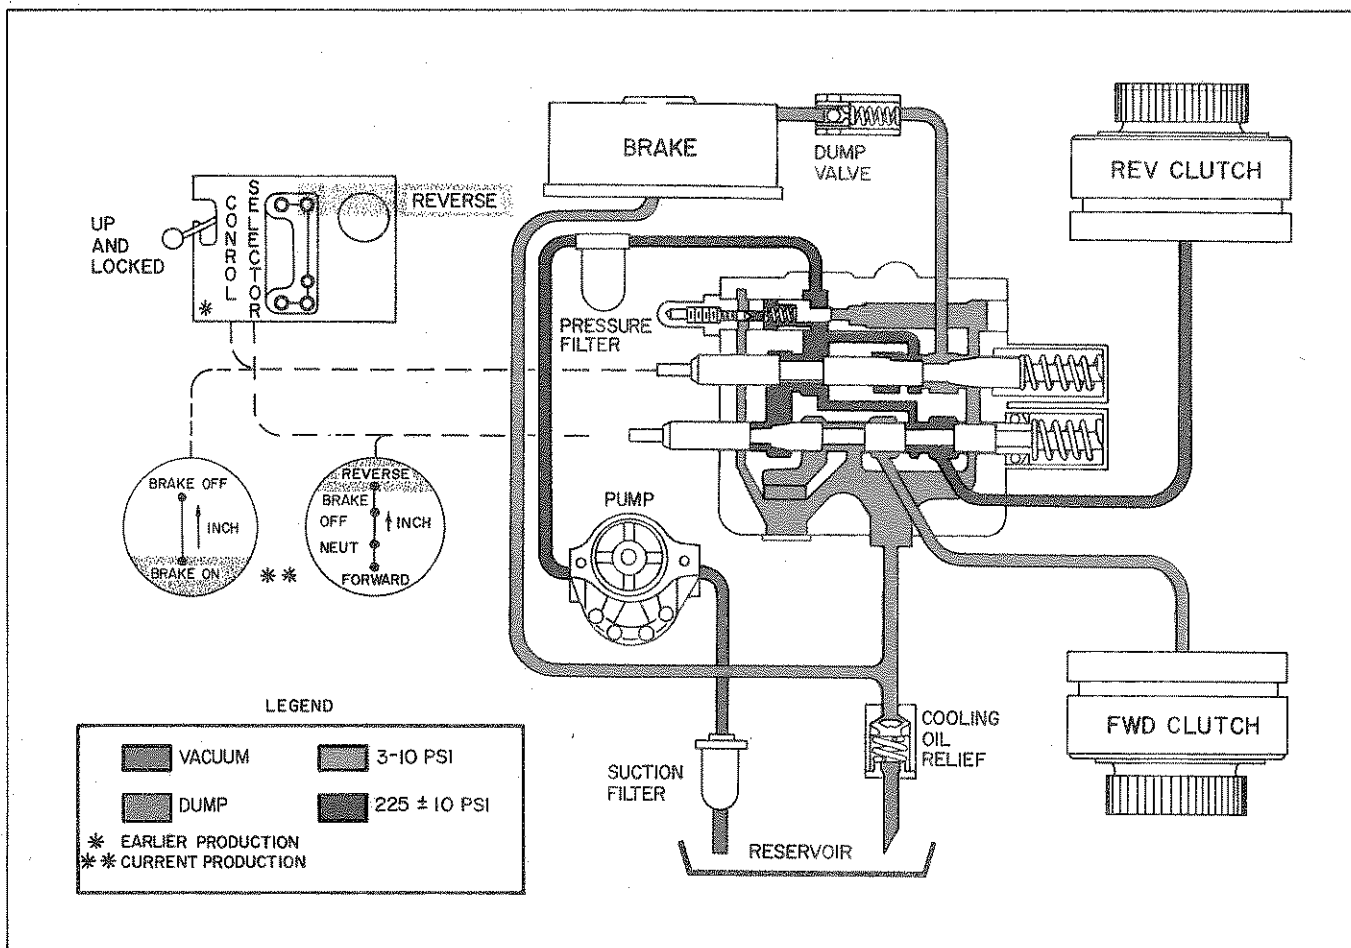

Figure 1-17. Hydraulic Flow Diagram, Reverse Inching, Brake Applied
1-30. HYDRAULIC SYSTEM IN REVERSE INCHING, BRAKE APPLIED. (See Figure 1-17.) On Earlier Production Handling Gear, the system is placed in REVERSE INCHING OPERATION by: (1) Moving the Control Lever Up and locking it in place and (2) Holding the Selector Lever in the REVERSE position. On the Current Production Handling Gear, this is accomplished by: (1) Lifting the Stop Latch away from the Inching Lever which will allow the Inching Lever to spring-return to the BRAKE ON position and (2) Holding the Selector Lever in the REVERSE position. When the Control Lever is Up and locked, or when the Inching Lever is in the BRAKE ON position, the inching spool is spring-returned to its Neutral position. With the Selector Lever in the REVERSE position, the selector spool is pushed to its extreme Out position. With the spools in these positions, the hydraulic pump draws oil from the reservoir through the suction filter and delivers it through the pressure filter to the control valve inlet. Oil will then enter the control valve inlet and flow past the inching spool
to the selector spool. At this time, the oil is dead-headed since the selector spool has been pulled to its extreme Out position which closes off the passage between the valve body and the spool. The oil will then back up and fill the cavities leading to the reverse clutch assembly and the brake cylinder. As shown in figure 1-17, the entrance to the brake port is much smaller than the exit from the brake port. Therefore, the oil entering the brake port will not increase to a high pressure in that port. Pressure upstream of the brake port will continue to increase until it is relieved at the high pressure relief valve. This pressure engages the reverse clutch assembly. Overflow from the pilot-operated relief valve is regulated by the cooling oil relief valve. This low-pressure oil circulates to the forward clutch assembly to cool the clutch discs. At this time, the reverse clutch has been applied, but the brake has not been released. The torque converter on the tractor will therefore assume a stalled condition.